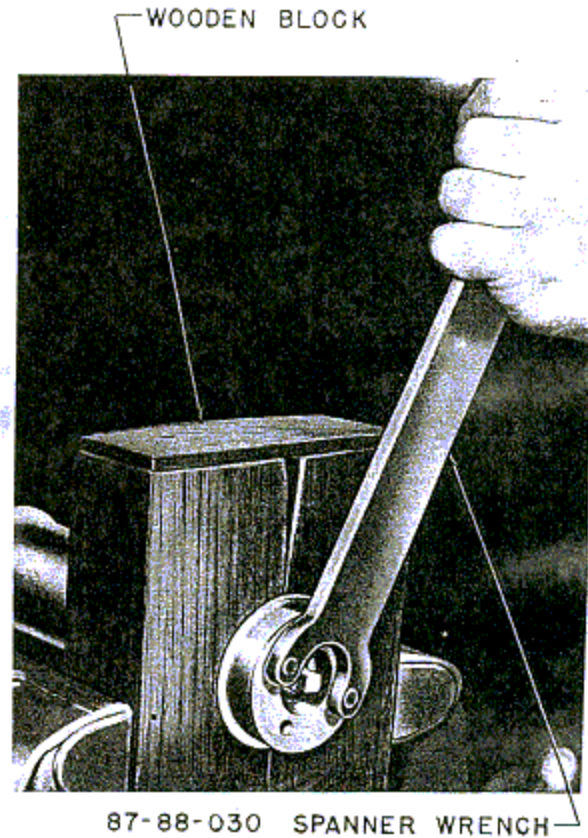

Figure 250—Removing End Nut from Cylinder
7. Unscrew the end nut with the spanner wrench (87-88-030) carried in the tool compartment on the duffle bag. (See figure 250.)